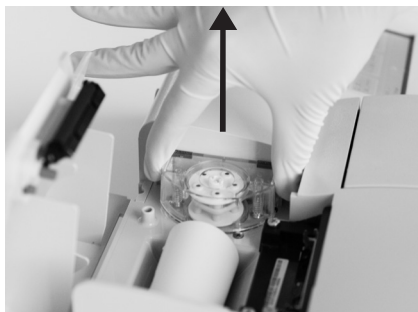

Fig. 7-14 Remove Pump Cartridge
1. Open the printer cover door by pressing the red printer release button. The peri pump is located to the right of the printer. Remove the pump by firmly grasping the ends of the housing and pulling upward (Fig. 7-14).